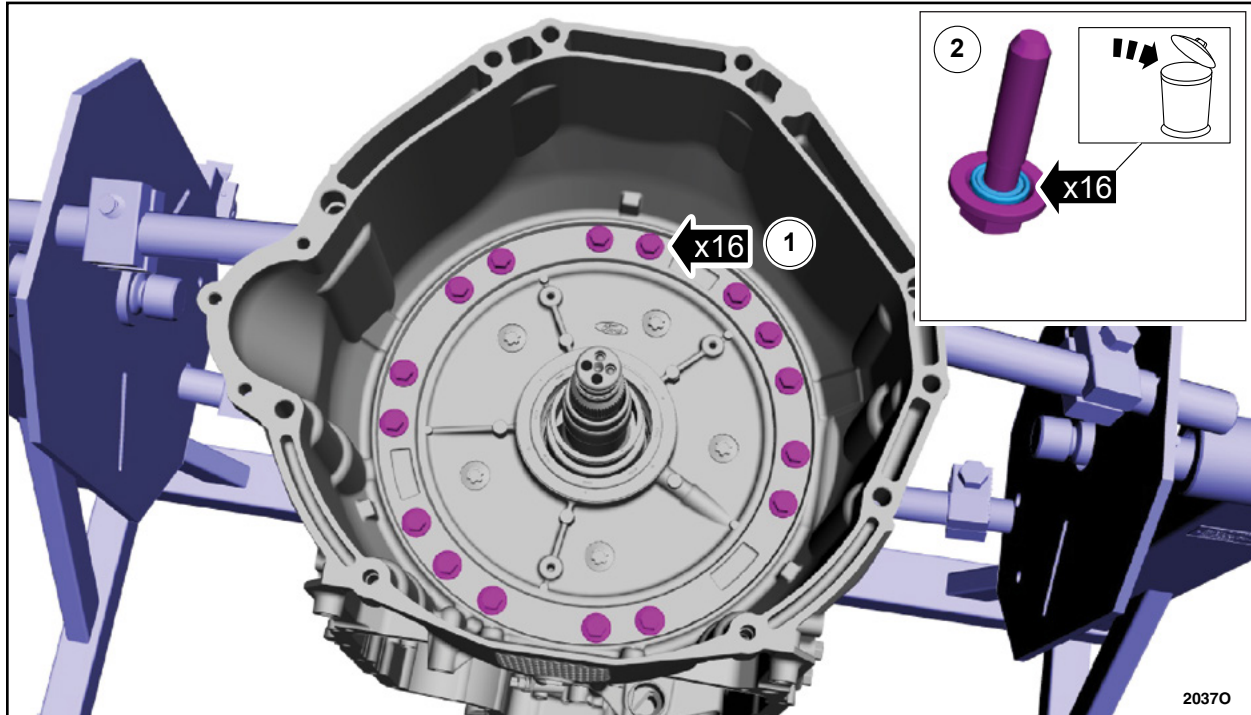

FIGURE 7
10. Remove the front support assembly bolts. See Figure 7.